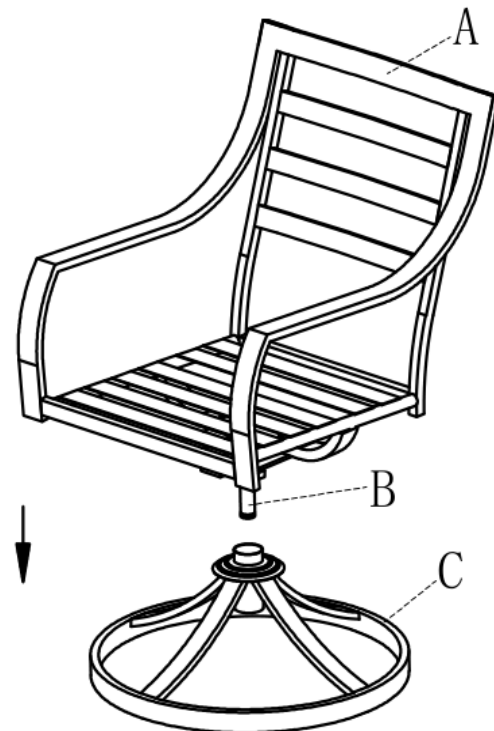

Figure 2
Step 2. Place the chair frame (A) into the base (C) as shown in Figure 2 .